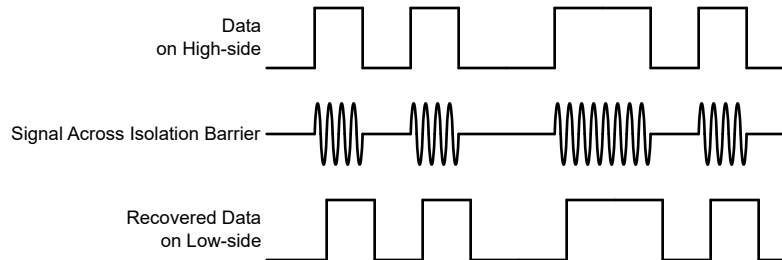

Figure 6-4. OOK-Based Modulation Scheme
The AMC22C12 uses an on-off keying (OOK) modulation scheme, as shown in Figure 6-4, to transmit the comparator output states across the SiO₂-based isolation barrier. The transmit driver (TX) shown in the Functional Block Diagram transmits an internally-generated, high-frequency carrier across the isolation barrier to represent a digital *one* and does not send a signal to represent a digital *zero*.